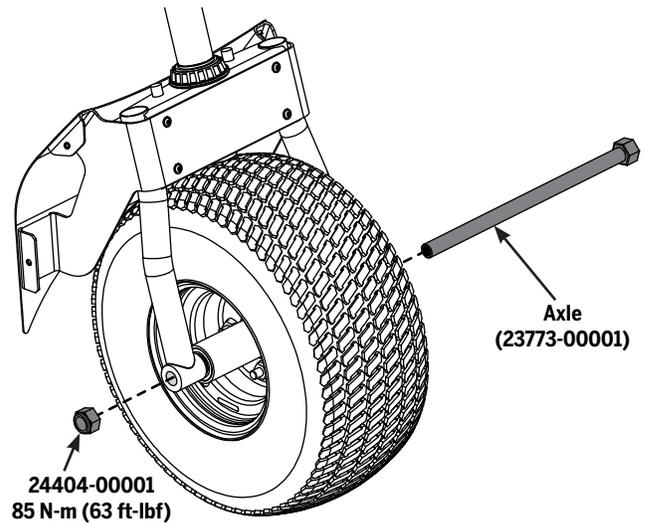

Figure 39: Front Axle Removal
5. Using a 30 mm socket wrench, remove the axle and slide it out. See **Figure 39**.
See **Figure 39**.